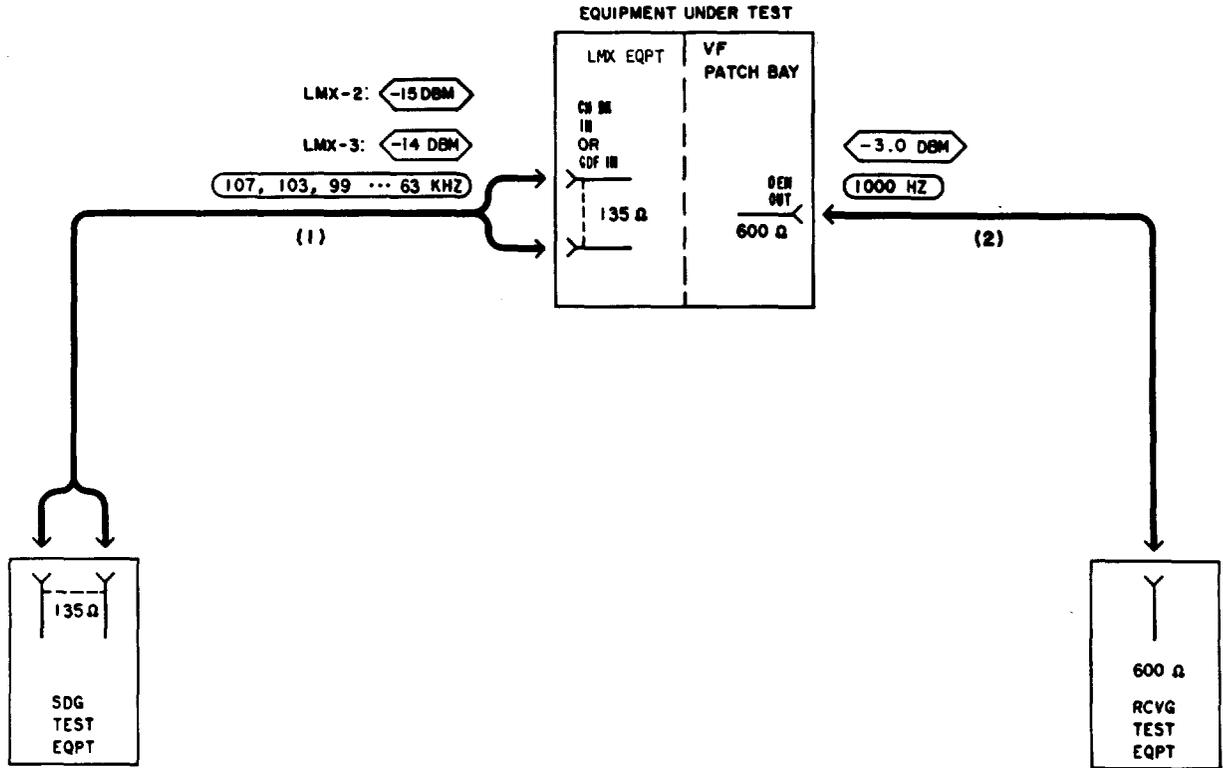

Fig. 4—Patching Diagram—Receiving Level Adjustment
3	At the LMX equipment, connect the STE to the CH BK IN (LMX-2) or GDF IN (LMX-3) jack [patch (1), Fig. 4].
4	Connect the RTE to the DEM OUT jack for the channel under test [patch (2), Fig. 4].
- (1) Replace the applicable plug-in channel modem unit with a spare.
- (2) If the adjustment of Step 5 *still cannot* be made, reinsert the channel modem removed in Step 6(b)(1) and refer to Sections 356-015-500 and 356-015-501, Chart 4, to clear channel filter problems.
- 7 Remove patch (2), Fig. 4.
- 9 At the LMX equipment, remove patch (1), Fig. 4.